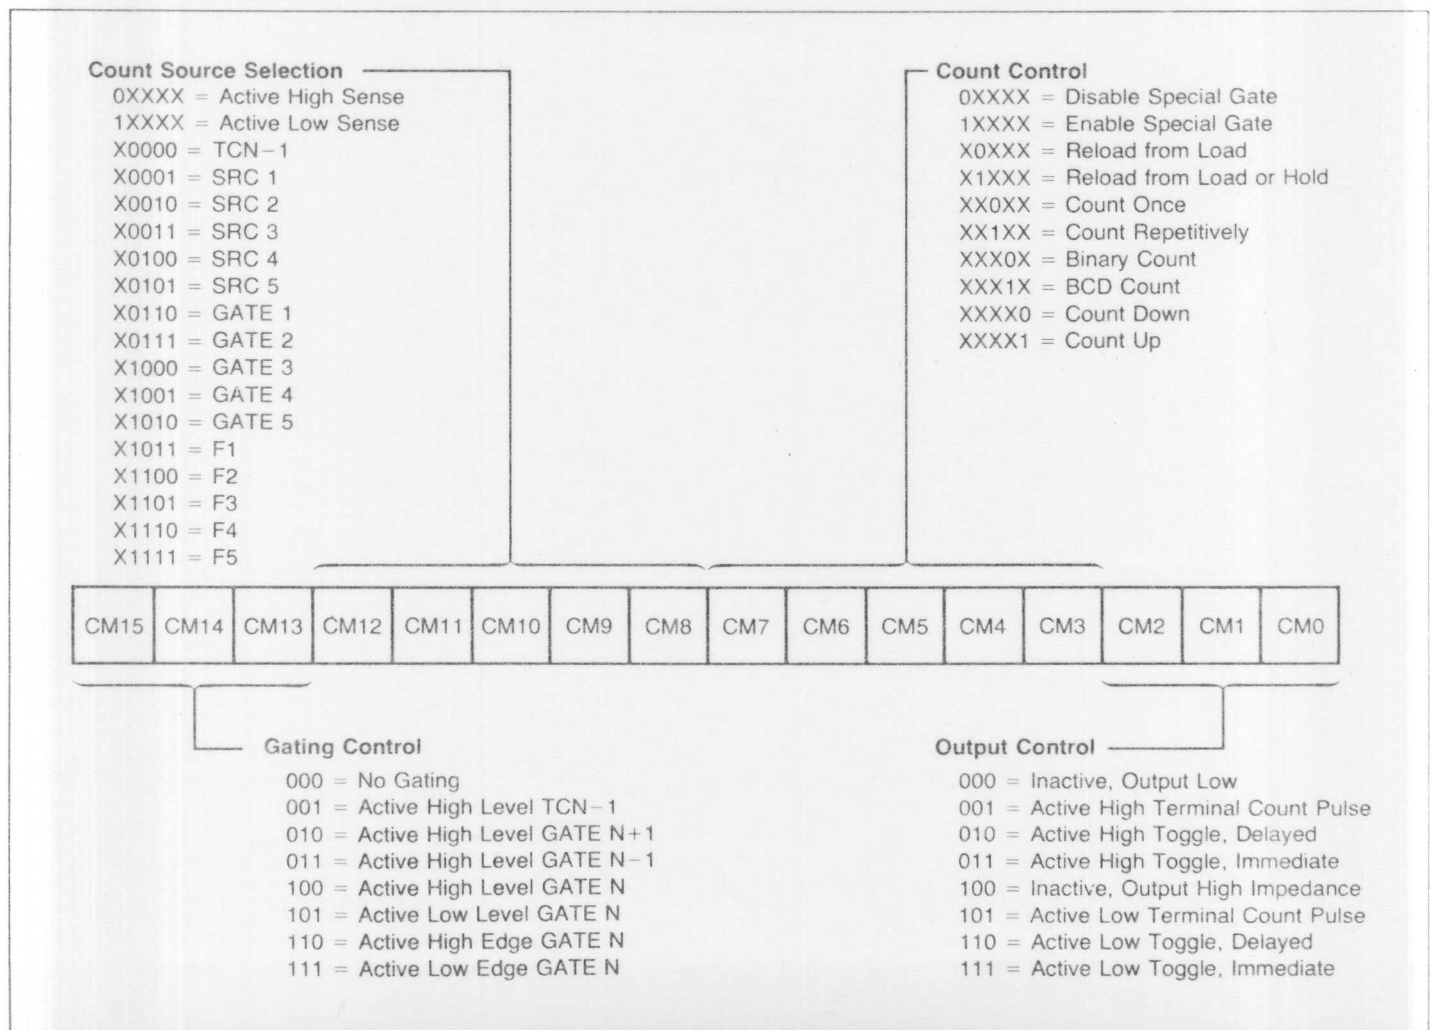

Figure 15. Counter Mode Register Bit Assignments.
The 16-bit read/write Counter Mode register controls the gating, counting, output and source select functions within each Counter Logic Group. The "Counter Mode Control Options" section of this note describes the detailed control options available. Figure 15 shows the bit assignments for the Counter Mode registers.
Each Counter Logic Group includes a Counter Mode (CM) register used to control all of the individual options available with its associated general counter. These options include output configuration, count control, count source and gating control. Figure 15 shows the bit assignments for the Count Mode registers. This section describes the control options in detail. Note that generally each counter is independently configured and does not depend on information outside its Counter Logic Group.